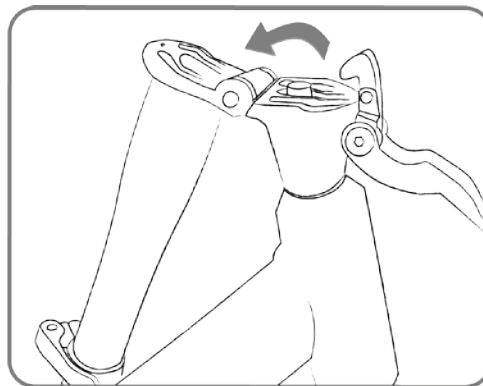
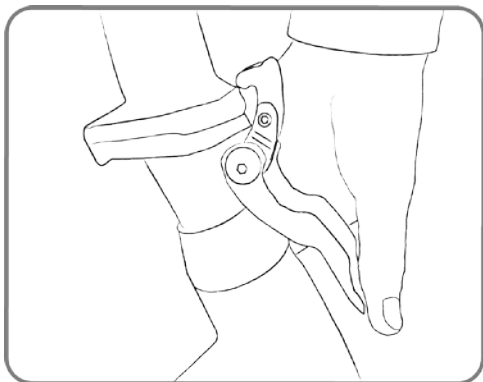

fig. 5
fig. 4
5. Unlock the clamp of the stem (fig. 4) and fold the steer in front of the saddle (fig 5) until it support on the side of the frame (Be aware of the cables).